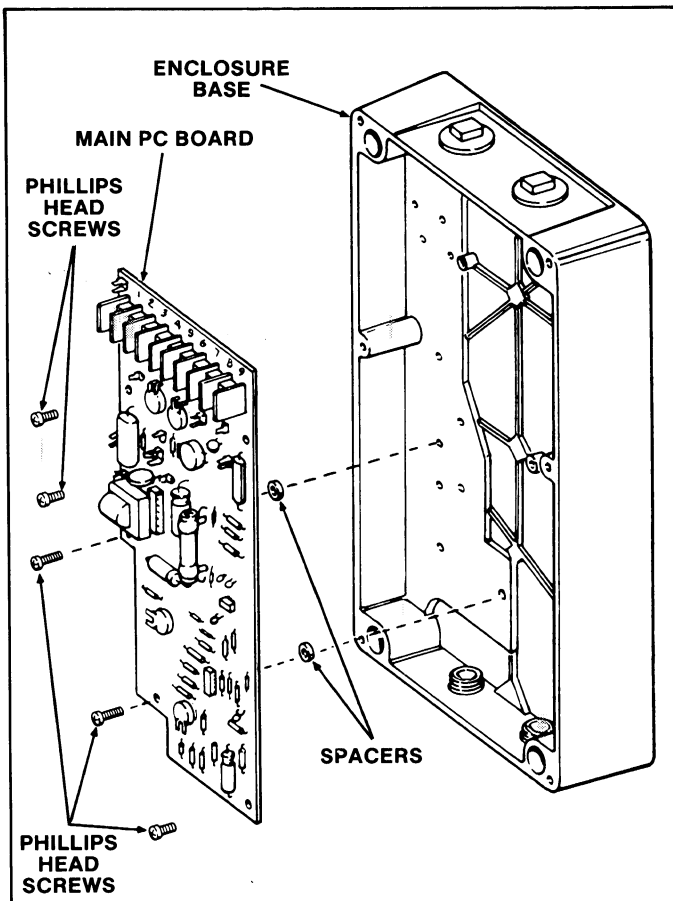

Figure 2 — PC Board Mounting — NEMA TYPE 4/13 ENCLOSURE
4. Remove the 5 Phillips head screws which secure PC board to enclosure. The two longer screws have spacers (stand-offs) between PC board and enclosure — retain screws and spacers (see Figure 2).
6. Place 2 longer Phillips head screws through replacement PC board holes at notches on left side of PC board (see Figure 2) and place spacer on each screw.